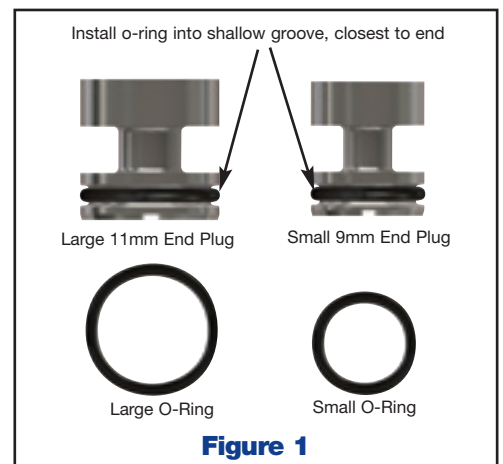

Figure 1
1. For both the 9mm and 11mm end plugs, install the correct o-ring into the shallow groove that is closer to one end of the plug (see Figure 1). The deeper centered groove is for the retainer. The ID small o-ring installs onto the 9mm end plug while the ID large o-ring fits onto the 11mm end plug.